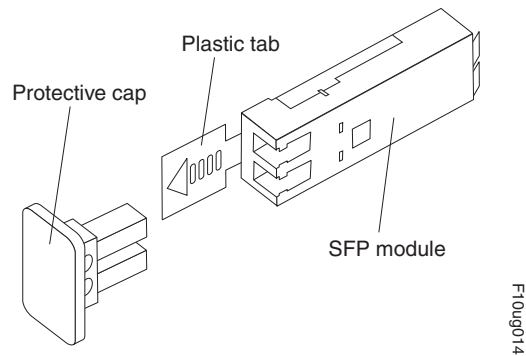

Figure 19. Small Form-Factor Pluggable (SFP) module
2. Remove the protective cap from the SFP module, as shown in Figure 19 on page 51. Save the protective cap for future use.